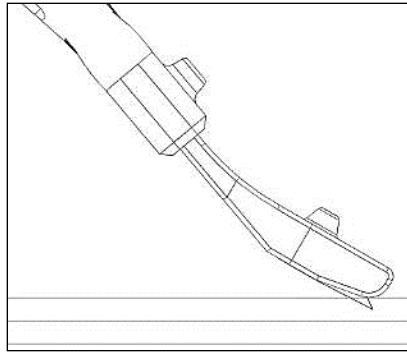

Figure 8. Initial Gap Filler Engagement
- 3.2.2. With the forward cutting edge of the TGB at a 25-30 degree angle to the surface of the gap filler, pierce the gap filler so the cutting edge is embedded in the gap filler. See **Figure 8**.